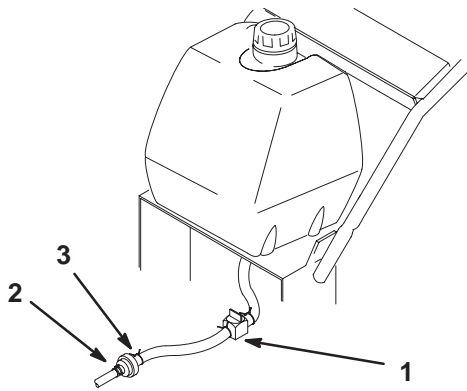

Figure 44
2. Close the fuel shut-off valve in fuel line (Fig. 44).
3. Squeeze the ends of the hose clamp together and slide it up the fuel line away from fuel filter (Fig. 44).
4. Pull the fuel line off the fuel filter (Fig. 44). Open fuel shut-off valve and allow gasoline to drain into a gas can or drain pan.
3. Close fuel shut-off valve (Fig. 44).
7. Open the fuel shut-off valve at the fuel tank (Fig. 44).